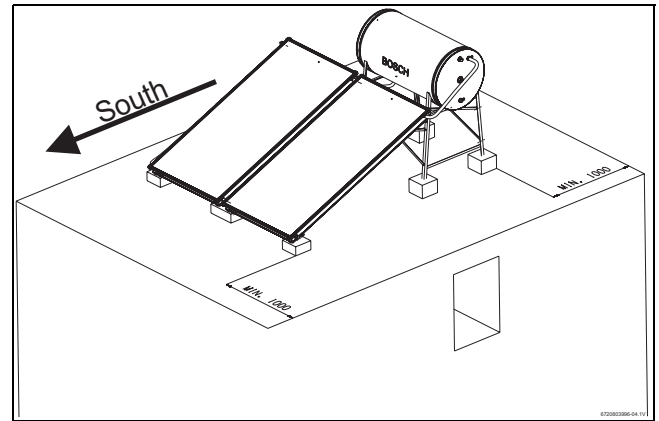

Fig. 5
► Before commencing installation, ensure that a clearance of at least one metre is allowed between the flat roof frame and the roof perimeter (→ Fig. 5).